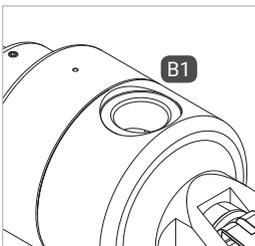

Figure 2
- ▶ Screw the 'B1' media inlet pressure-tight to the port for the media line (*Figure 2*).